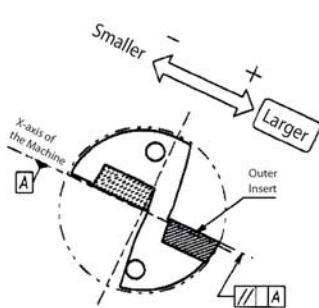

Fig. 2 Outer Insert Facing Up
- ① Cutting diameter is adjusted by moving the tool in the X-axis direction. The moving direction of the X-axis movement depends on the position of the toolholder.
- ② For making the hole diameter larger, slide the tool along the X-axis toward the outer insert side. (Fig. 2, Fig. 3) For making the hole diameter smaller, slide the tool along the X-axis in the opposite direction. (This movement of the axis is called "Offset") However, be sure not to make the hole diameter smaller than the drill diameter by 0.2mm (.008") or more. Otherwise, the toolholder will interfere with the drilled hole. (Fig. 4) e.g.) when using $\varnothing 20$ ($\varnothing .787$ ") drill, the hole diameter must not be smaller than 19.8mm (.780") .